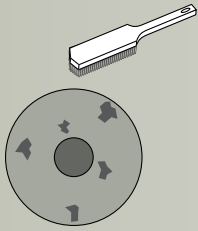

Figure 27
- Figures 27 to 31 show the general installation of the PFEIFER concrete plugs. To achieve an ideal appearance, it is generally necessary to ensure careful execution.